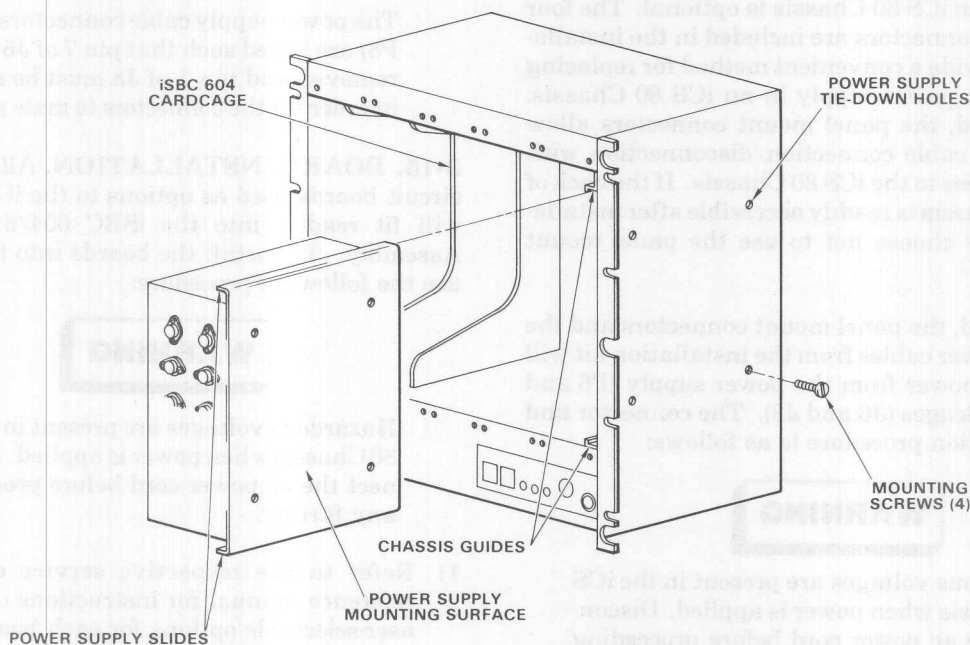

Figure 3-4. Power Supply Mounting
- 3) Position the power supply in front of the chassis as shown in figure 3-4. Notice that the mounting surface on the power supply is oriented away from the cardcages.